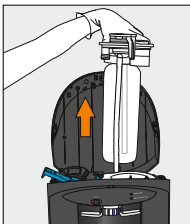

Figure 36
8. Pull SmartFlo SF-1 Water Cartridge upwards to remove (Figure 36)